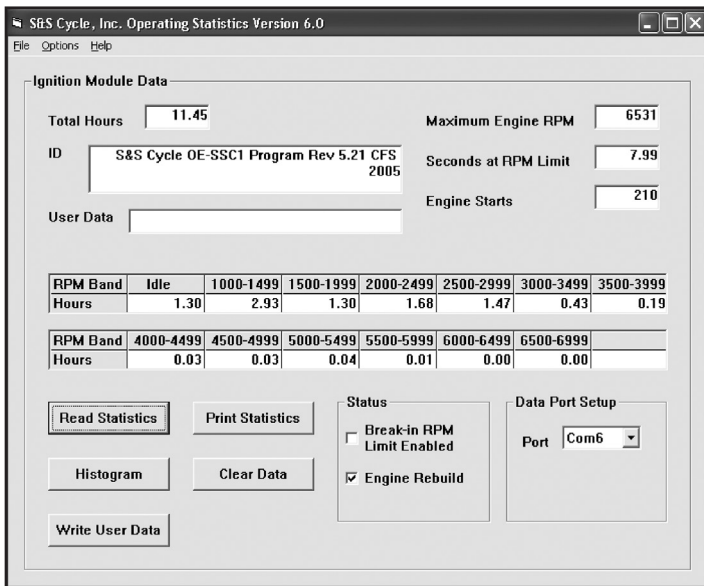

Figure 3
4. The main screen appears as shown in the **Figure 3, next page**.